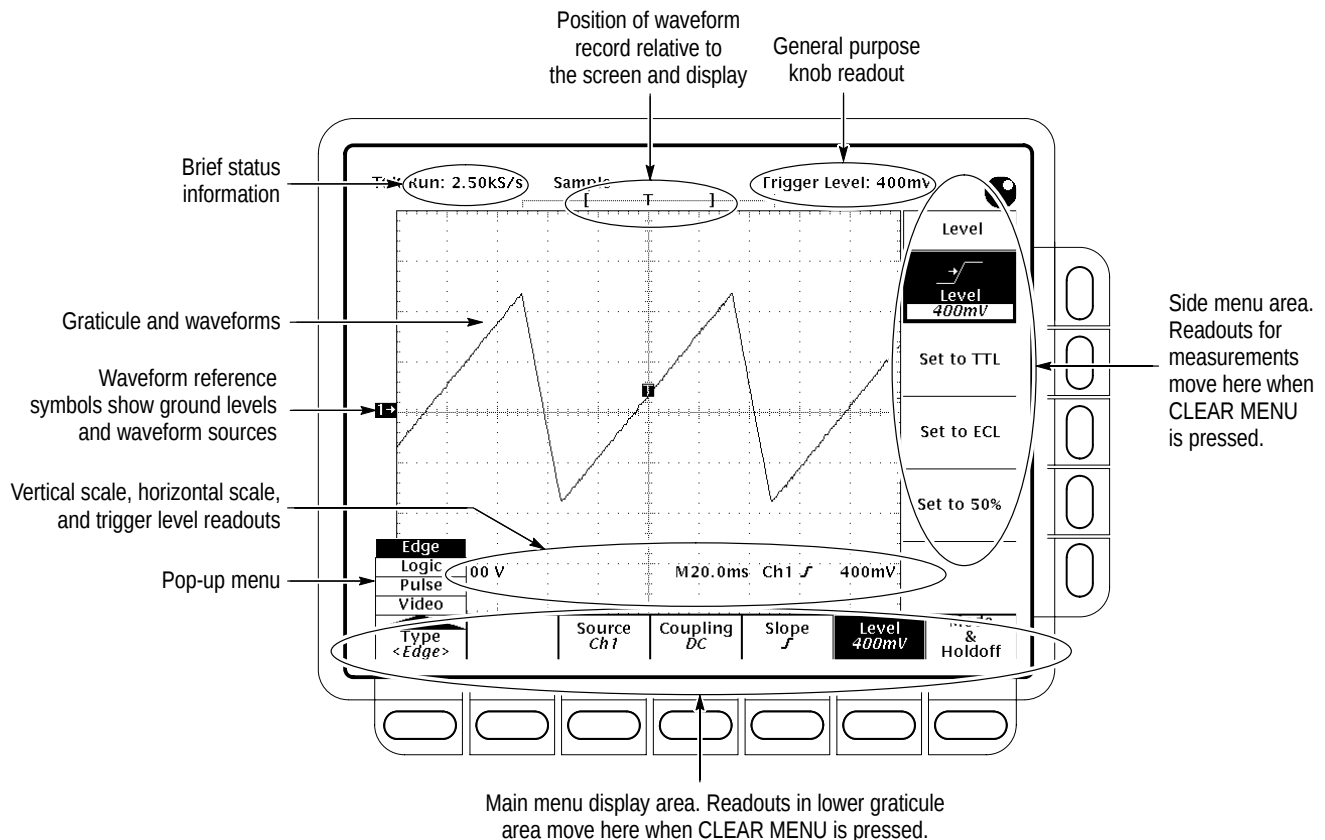

Figure 4–1: Map of display functions
- Refer to Figure 4–1: “Main menu” refers to the menu that labels the seven menu buttons under the display; “side menu” refers to the menu that labels the five buttons to the right of the display. “Pop-up menu” refers to a menu that pops up when a main-menu button is pressed.
- The vertical scale readout for the channel under test shows a setting of 200 mV, and a square-wave probe-compensation signal about 2.5 divisions in amplitude is on-screen. See Figure 4–1 on page 4–3 to locate the readout.
- a. *Hook up the signal source:* Install the probe on **CH 1**. Connect the probe tip to **PROBE COMPENSATION SIGNAL** on the front panel; connect the probe ground to **PROBE COMPENSATION GND**. See Figure 4–3 on page 4–8.